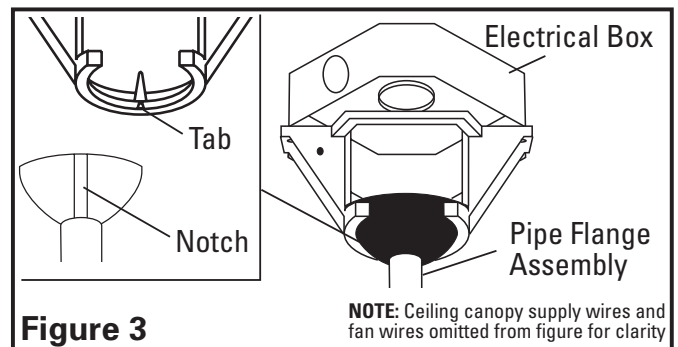

Figure 3
2. Carefully lift the fan and seat the pipe flange and ball assembly on the hanger bracket that was just attached to the electrical box. Be sure the notch on the side of the ball is lined up with the tab on the hanger bracket (Figure 3).